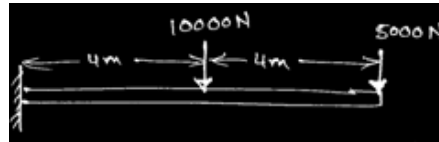

Fig: 4
4. For the cantilever beam shown in Fig: 4, determine the nodal displacements. Construct the shear force and bending moment's diagrams. Compare the results. Given $E=200 \text{ GPa}$, $I= 5000 \text{ cm}^4$.